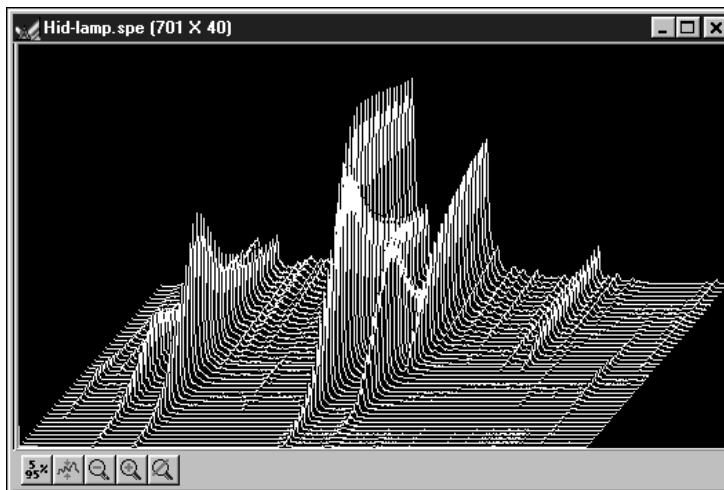

Figure 55. High Intensity Lamp Spectrum
5. Either double-click on the name of the file you want to open or single-click on the name and then click on the **Open** button. For example, with 3D Graph selected, double-clicking on `Hid-lamp.spe` would open that file, producing the display shown in Figure 55. Note that there are many different ways of controlling how the image will be displayed, as described in Chapter 8.